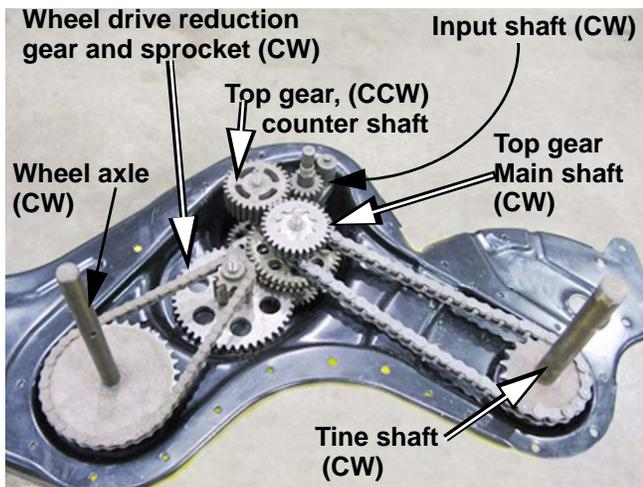

Figure 5.10
7. The sprocket attached to the wheel drive reduction gear drives the wheel axle Clock Wise. See Figure 5.10.